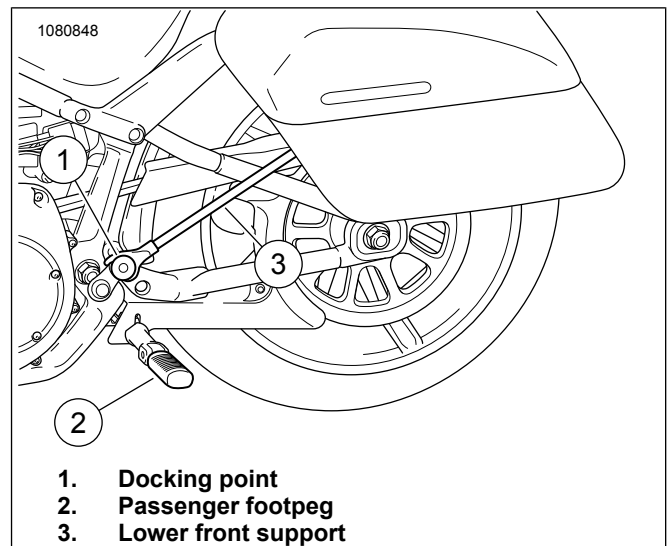

Figure 5. Lower Front Support and Docking
See Figure 5. Install docking point components onto lower front support before installing lower front support onto vehicle. Make sure all spacers and mini docking points are aligned before continuing.
2. See Figure 5. Install docking point bracket onto frame with docking point facing out, aligning notch in bracket to swingarm pivot nut.
3. See Figure 5. While holding lower front support (3) to prevent rotation, tighten screw using an extended T50 TORX drive head. Tighten.